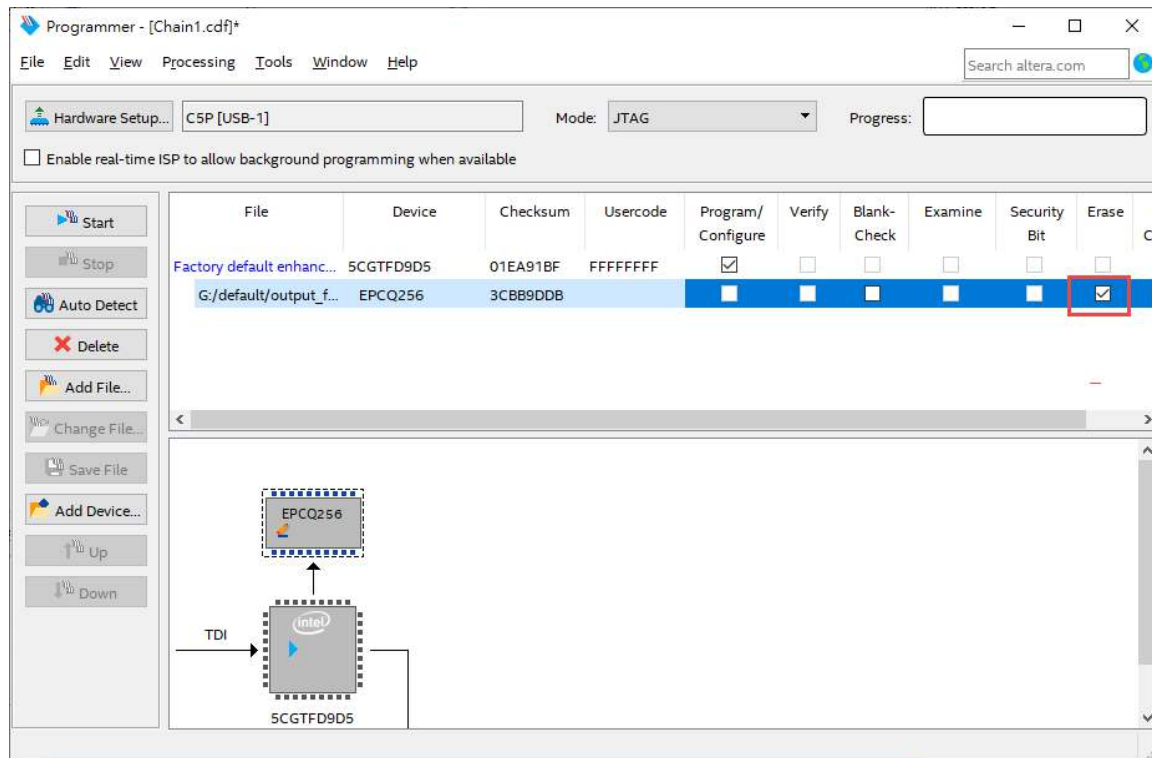

Figure 6-9 Erase the EPCQ device
4. Erase the EPCQ device by clicking the corresponding **Erase** box. A factory default SFL image will be loaded, as shown in **Figure 6-9**.